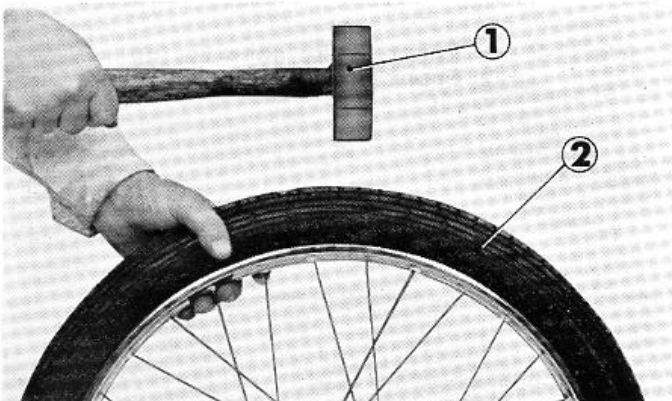

Fig. 4-6 ① Wooden hammer ② Tire
- a. After assembling the tire and tube, fill tire with approximately  $0.5\text{kg}/\text{cm}^2$  ( $7.1\text{ lb}/\text{in}^2$ ) of air and tap all around with a wooden hammer to prevent tube from being pinched. (Fig. 4-6)